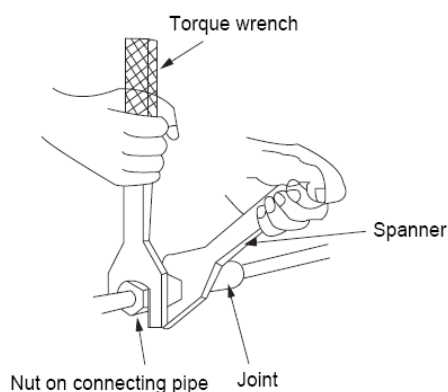

Fig.11-8
- Tighten the nut of connecting pipe forcibly, then tighten it by spanner (as shown in fig.11-8).